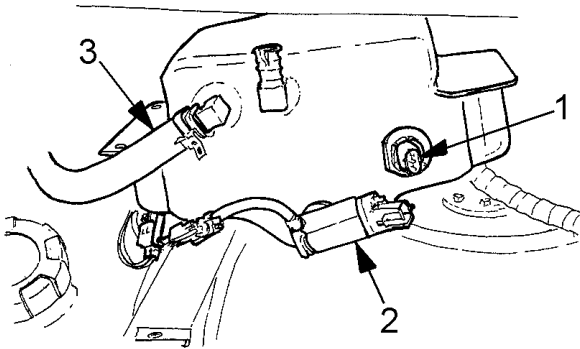

Figure 4 Remove Pump with Hose Attached
5. Remove the washer reservoir pump and hose (do not remove the hose from the pump)(Figure 4).
- 6. Remove the washer reservoir fill hose (Figure 4, Item 3).
- 8. Remove the fluid level sensor for reuse in the new reservoir (Figure 4, Item 1).